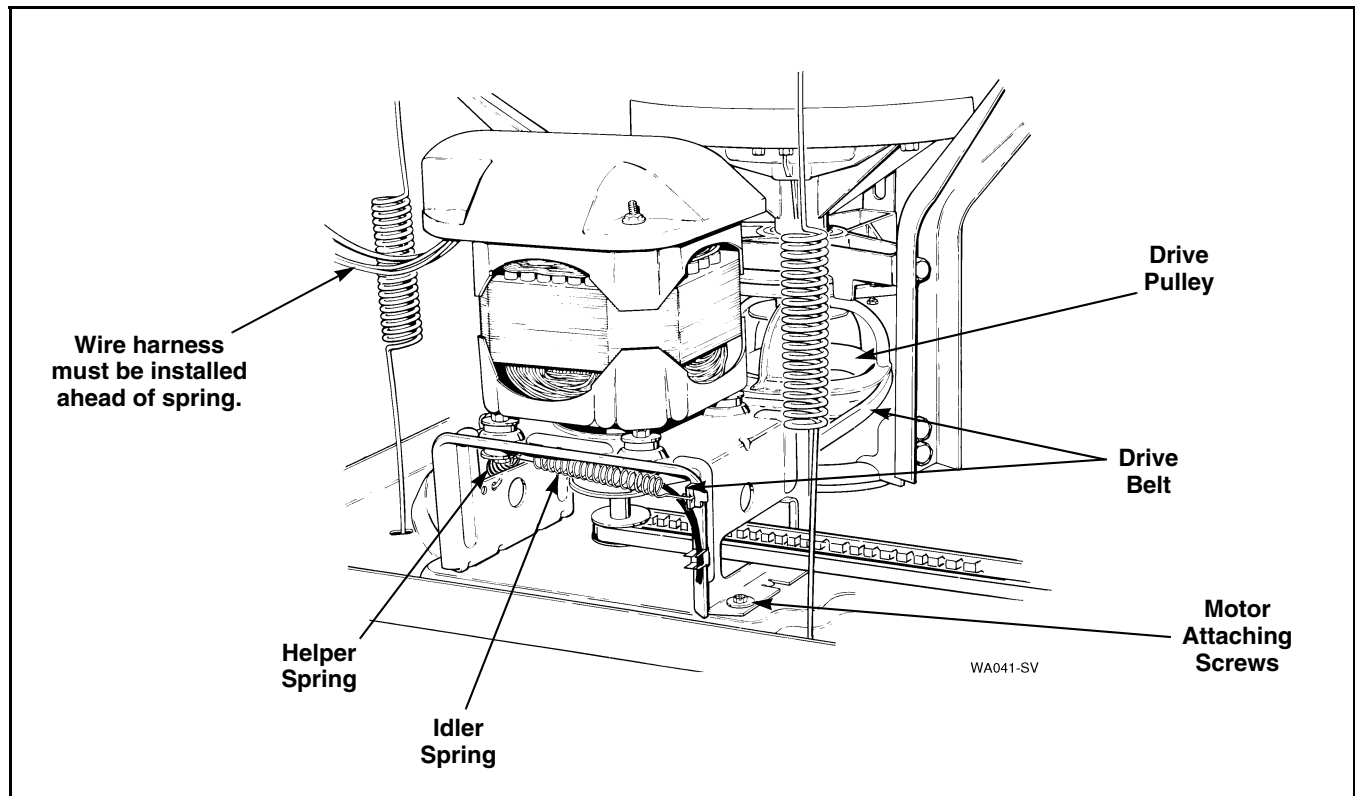

Figure 18
- While holding idler lever, reach in and around right side of motor and run belt off right side of large drive pulley. Refer to *Figure 18*.
NOTE: There is no belt adjustment after installing new drive belt. Check to be sure motor and mounting bracket have been shifted toward rear of washer to its limit of travel within the mounting bracket attaching screws. If the motor and mounting bracket must be repositioned, loosen the four motor attaching screws and shift motor and mounting bracket toward rear of washer to its limit of travel. Retighten the four attaching screws. Refer to *Figure 18*.